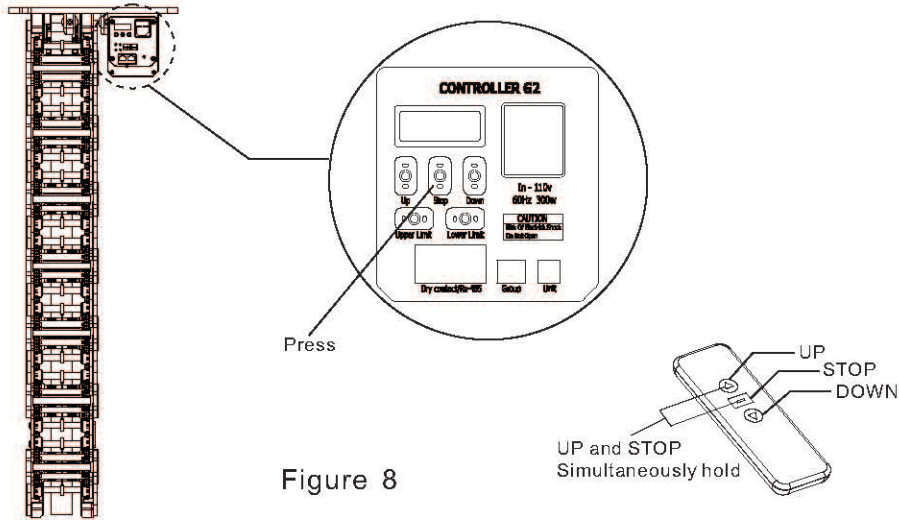

Figure 8
- As in figure 8, under the loading condition of the iron hand, long press the stop button within 5 second after power on. Release the button until the iron hand move upward and downward.